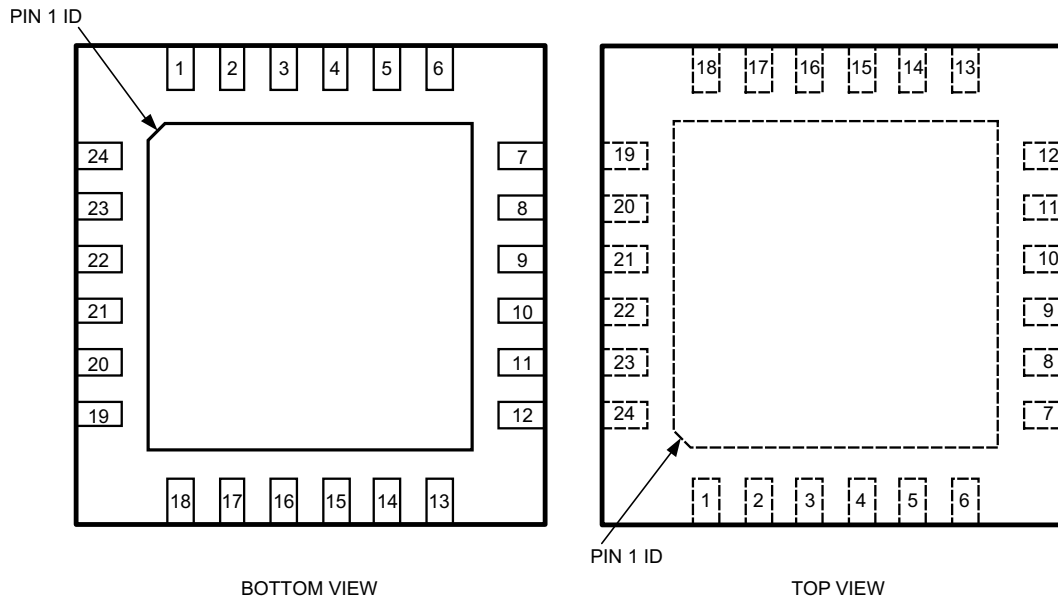

**Figure 1. Typical Application Circuit**
Limits in standard type face are for TA = 25°C. Limits in **boldface type** apply over the full operating ambient temperature range (-30°C ≤ TA ≤ +85°C). Unless otherwise noted, specifications apply to Figure 1 with: VIN = 3.6V, CIN = 10 μF, COUT = 4.7μF and L1 = 2.2 μH. (3)
Limits in standard type face are for  $T_A = 25^\circ\text{C}$ . Limits in **boldface type** apply over the full operating ambient temperature range ( $-30^\circ\text{C} \leq T_A \leq +85^\circ\text{C}$ ). Unless otherwise noted, specifications apply to Figure 1 with:  $V_{IN} = 3.6\text{V}$ ,  $C_{IN} = 10\ \mu\text{F}$ ,  $C_{OUT} = 4.7\ \mu\text{F}$  and  $L1 = 2.2\ \mu\text{H}$ .(3)